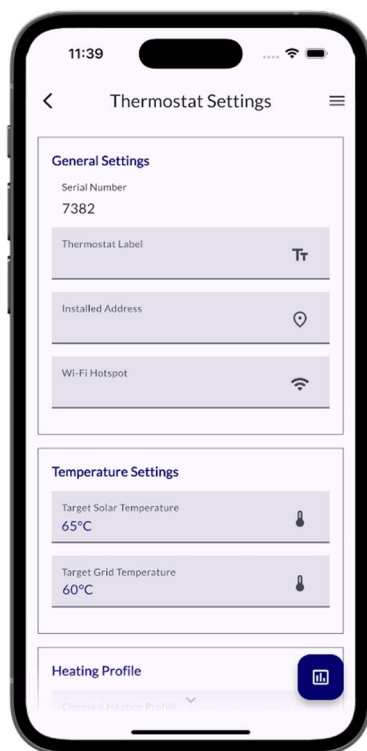

Figure A2 Configure screen
8. The application should display the **"Thermostat Settings"** screen (**Figure A2**)